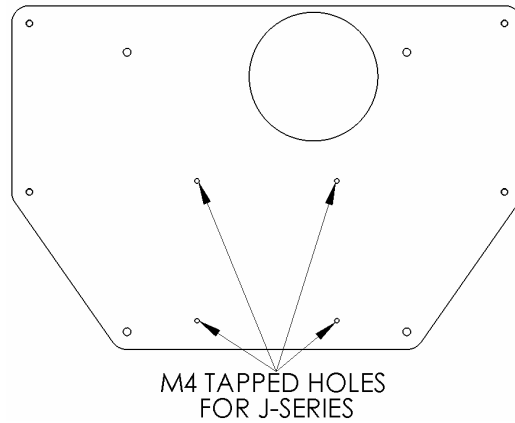

Figure 4
2. If attaching screen to a J-Series mount, use the tapped holes (see figure 4).